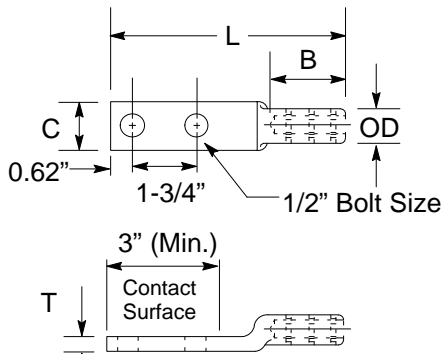
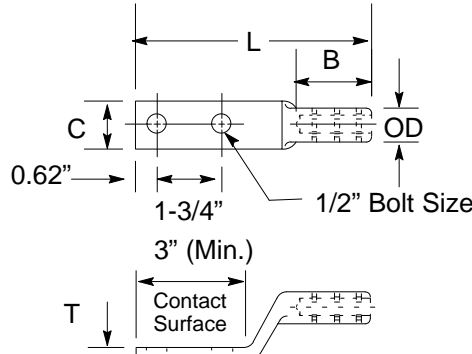

Figure 15
Figure 16
Table 26 Specifications for Terminal Connectors – Aluminum Cable-to-Flat Bar (Figure 15 and Figure 16)
**Table 26 Specifications for Terminal Connectors – Aluminum Cable-to-Flat Bar (Figure 15 and Figure 16)